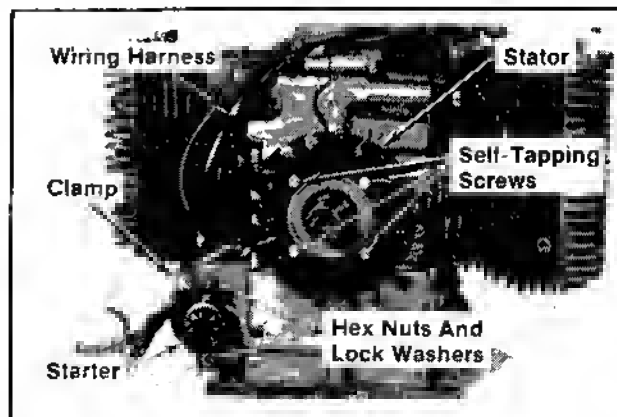

Figure 9-20. Removing Electric Starter and Stator.
1. Remove the hex. nuts, split lock washers, wiring harness clamp, wiring harness, and electric starter. Refer to Figure 9-20.
1. Remove the self-tapping screws and stator. Refer to Figure 9-20.